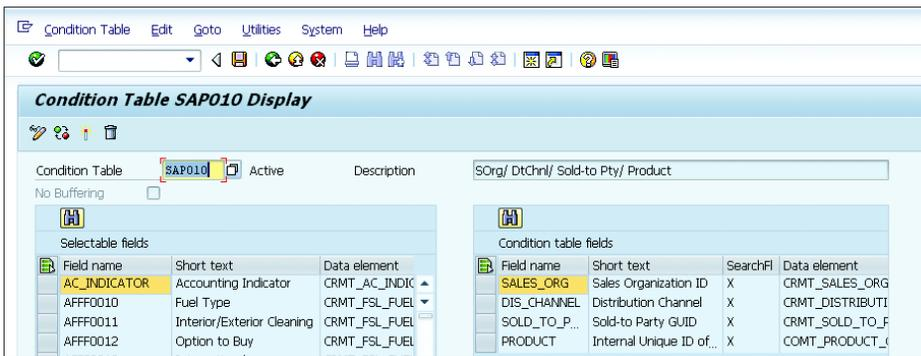

Figure 4.144 Condition Tables for Free Goods
1. Create a condition table. Navigate to CUSTOMER RELATIONSHIP MANAGEMENT • BASIC FUNCTIONS • FREE GOODS • SET UP FREE GOODS • CREATE CONDITION TABLES. In this example, it's standard condition table SAP010, which contains the fields SALES_ORG, DIS_CHANNEL, SOLD_TO_PARTY, and PRODUCT (see Figure 4.144).